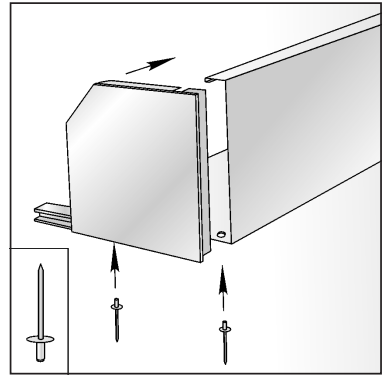

Fig. 12
- install APB adjustable cap in the roll tube at the side opposite to the drive, (Fig. 12);